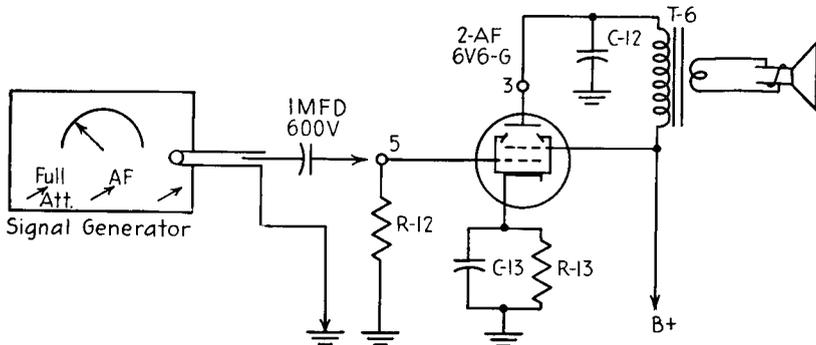

FIG. 10-3. Signal check of the second AF stage.
**Check for normal stage operation.** The signal check for the second AF stage is shown in Fig. 10-3. The signal generator is adjusted to give an AF signal, and the attenuator is set for maximum output. The signal